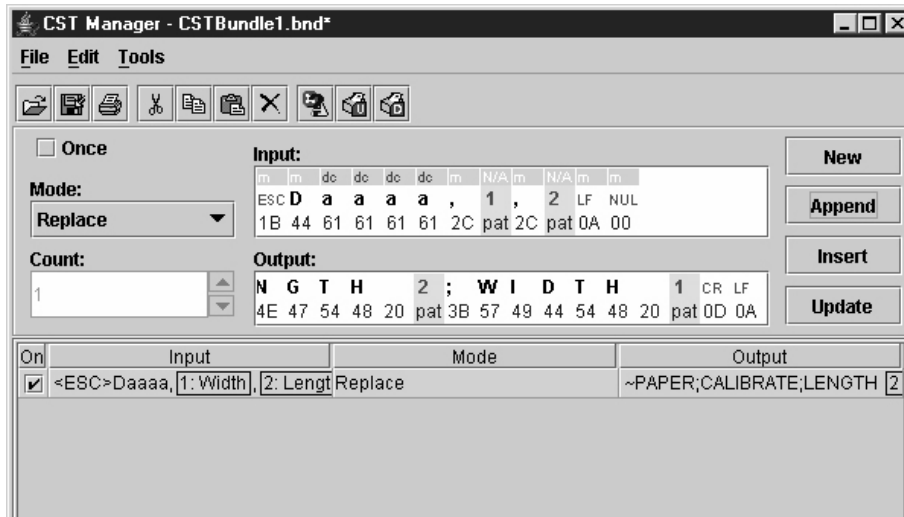

Figure 153. The Appended CST
34. Click **Append**. See Figure 153.